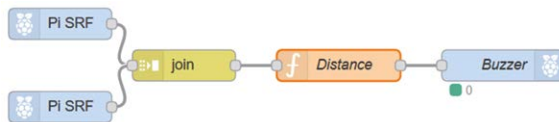

Figure 6.44 Flow program of the project
Node-RED flow program: Figure 6.44 shows the flow program which consists of 5 nodes: 2 **rpi srf** nodes, one for each ultrasonic distance sensor module, a **join** node to join the two outputs into an array, a **function** node to format the output for the buzzer, and a **rpi gpio out** node to control the buzzer.
- Join all the nodes as in Figure 6.44, click **Deploy**. Place objects close to either sensor and you should hear the buzzer sounding.